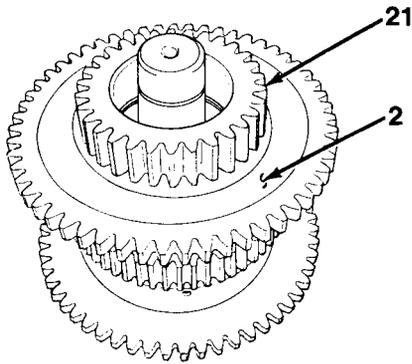
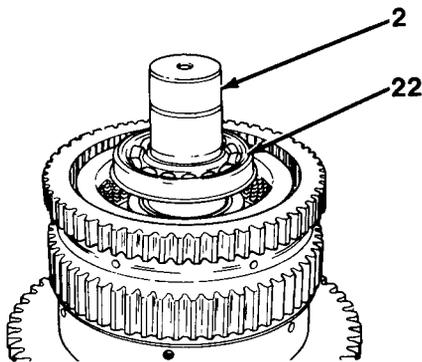

Figure 11-11
Figure 11-12
10. Install gear and hub welded assembly (21) onto clutch shaft assembly (2, Figure 11-11) and turn in both directions, alternately, while installing in order to align clutch plates.
11. Remove gear and hub welded assembly (21) to check alignment and any possible damage to teeth.
12. Install bearing (22) onto shaft assembly (2, Figure 11-12).